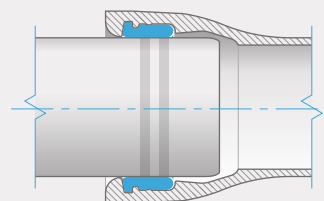

Figure 4
**COMPLETELY ASSEMBLED JOINT (Figure 4)**